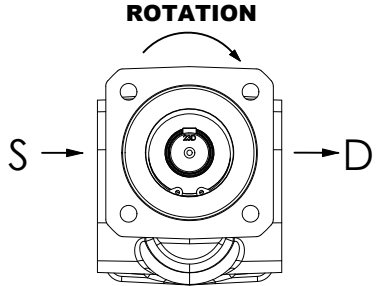

FIGURE 1
3. Suction/Discharge - HG Series pumps are designed for clockwise rotation as standard (viewed from end of shaft). Refer to Figure 1.